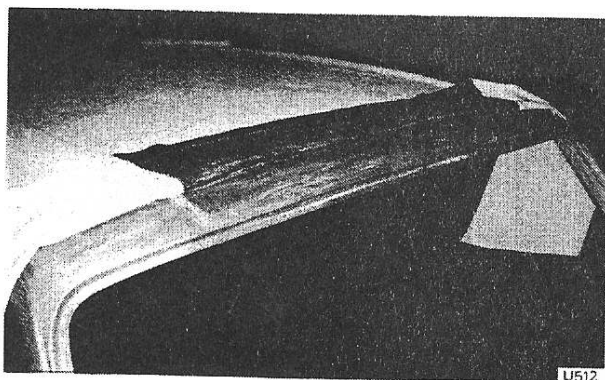

Fig. S98 Adhesive applied to Union Cloth and roof
21. Fold back the Everflex and Union Cloth at the windscreen or rear window (see Fig. S98).